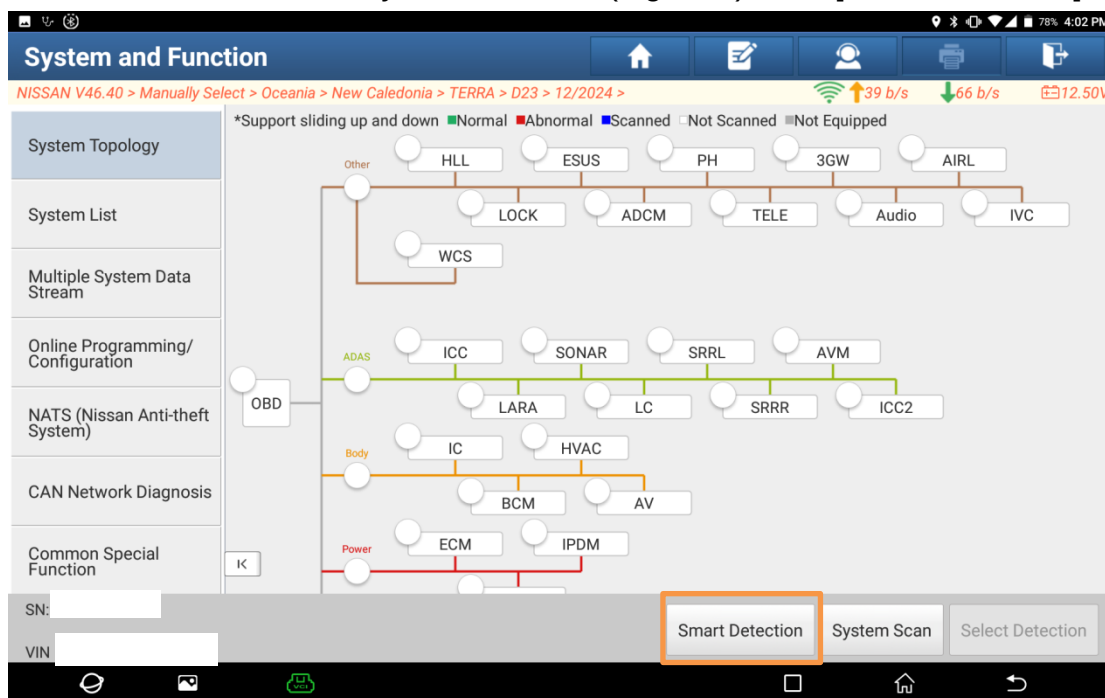

Figure 6
3. On the vehicle model system interface (Figure 6), click [Smart Detection].